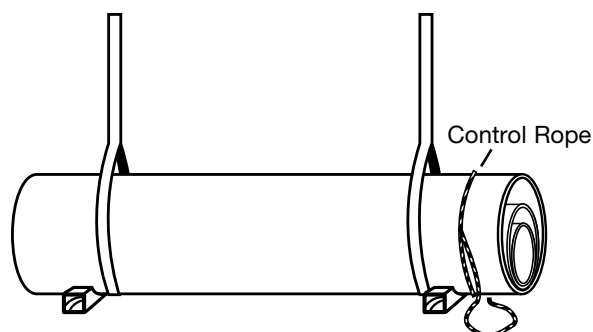

Figure 2-6 Double support point for nested pipes
- 1** Always lift the nested bundle using at least two pliable straps (**Figure 2-6**). Limitations, if any, for spacing between straps and lifting locations will be specified for each project. Insure that the lifting slings have sufficient capacity for the bundle weight. This may be calculated from the approximate pipe weights given in Appendix H.